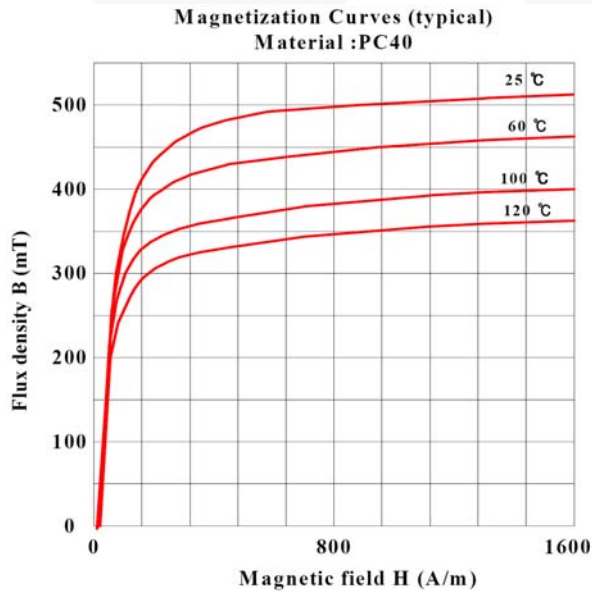

Figure 6. Typical B-H Characteristics of Ferrite Core (TDK/PC40)
The pulse-by-pulse current limit level is included in Equation (17) because the inductor current reaches the pulse-by-pulse current limit level during the load transient or overload condition. Figure 6 shows the typical characteristics of ferrite core from TDK (PC40). Since the saturation flux density ( $B_{SAT}$ ) decreases as the temperature goes high, the high temperature characteristics should be considered. If there is no reference data, use  $B_{MAX}=0.3\text{T}$ .